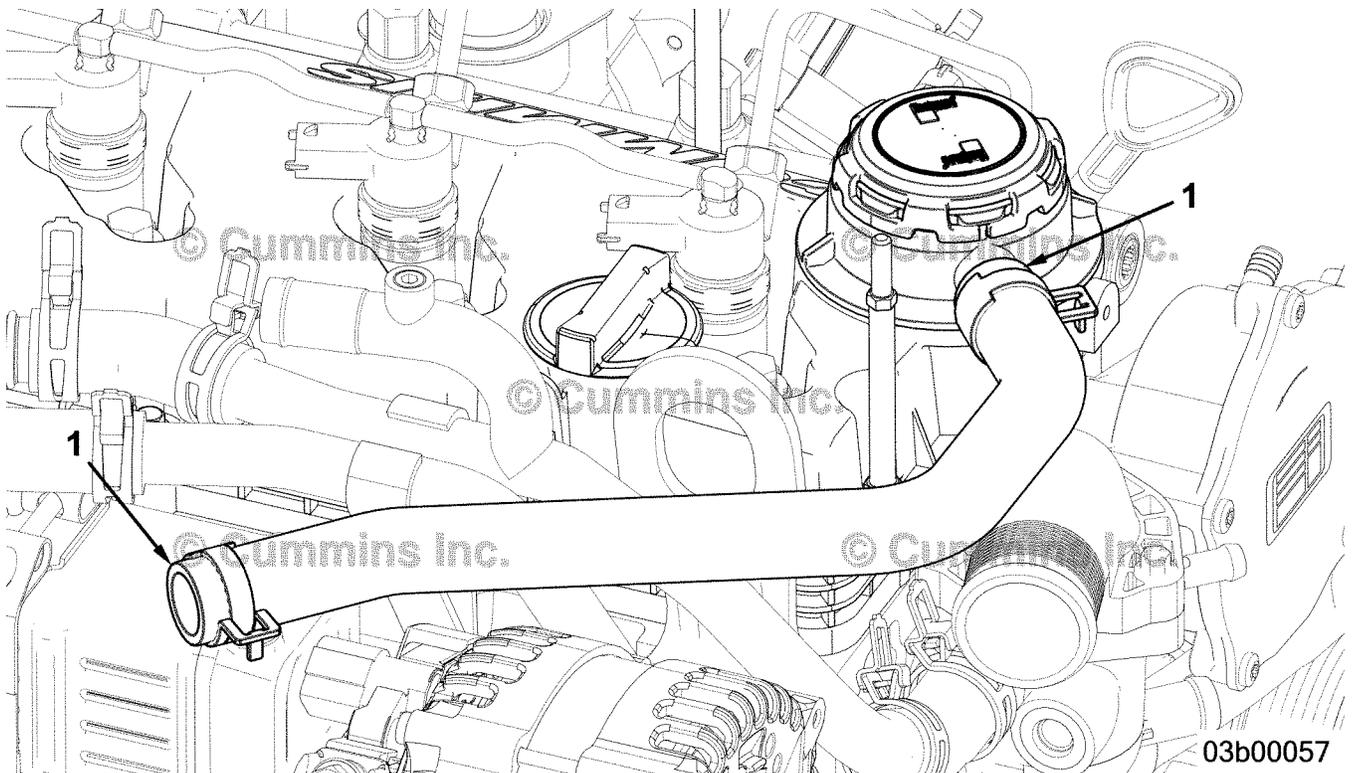

Figure 6 - Crankcase Breather Connection
Shown in Figure 6, a hose (1) is to be fitted between the crankcase breather connection and the engine intake system to reduce the release of crankcase vapors to the atmosphere. To be emission compliant, the breather tube **must** be plumbed back into the intake system. It should be installed a minimum of 3 duct diameters between the MAF sensor